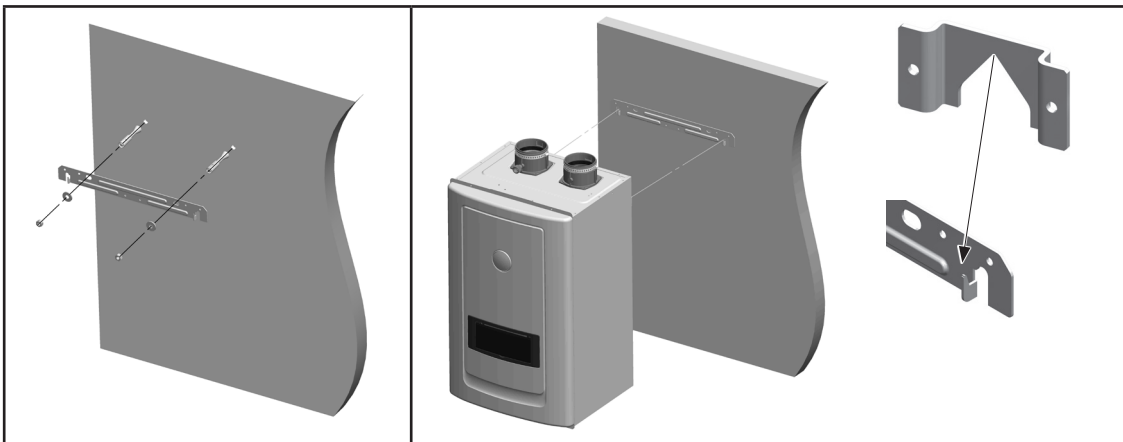

Figure 4 – Wall Mounting the Water Heater Top Bracket
2. Mark the two (2) drill holes with a pencil or marker. Remove the wall bracket.
3. Drill two (2) holes using a 15/32" (12mm) drill bit at the marked hole locations.
4. Mount the wall bracket to the wall with the two (2) included anchor bolts. Ensure the mounted bracket is level. Place washers and nuts on each anchor bolt and tighten. See Figure 4.
5. Align the heater bracket grooves on the back of the water heater with the tongues on the wall bracket and hang the water heater on the bracket. See Figure 4.